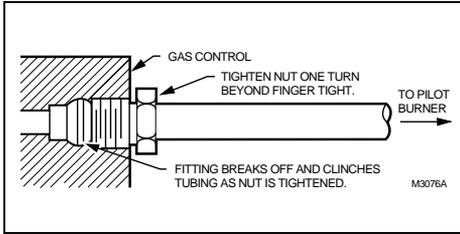

FIG. 6—ALWAYS USE NEW COMPRESSION FITTING.
NOTE: When replacing a control, cut off old compression fitting and replace with the compression fitting provided on the combination gas control. Never use the old compression fitting as it may not provide a gas-tight seal. Refer to Fig. 6.
2. With main burner operating, check gas control flow rate using the meter clocking method or pressure using a manometer connected to the outlet pressure tap on the gas control. Refer to Figs. 6 and 7.
2. With main burner operating, check the control flow rate using the meter clocking method or pressure using a manometer connected to outlet pressure tap on the control. Refer to Figs. 6 and 7.